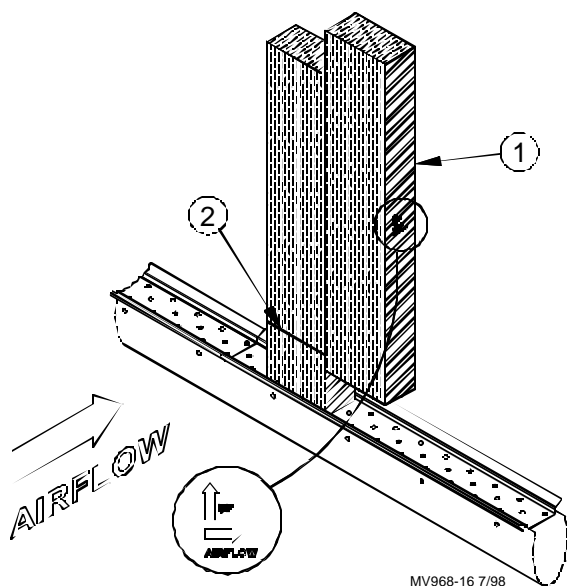

Figure 23. Pad Installation
- Beginning at one end, set the Evaporative Cooling Pads on the Pad Supports (See **Figure 23**). The top of the Pads should be against the Splash Plate and directly below the Distribution Pipe.